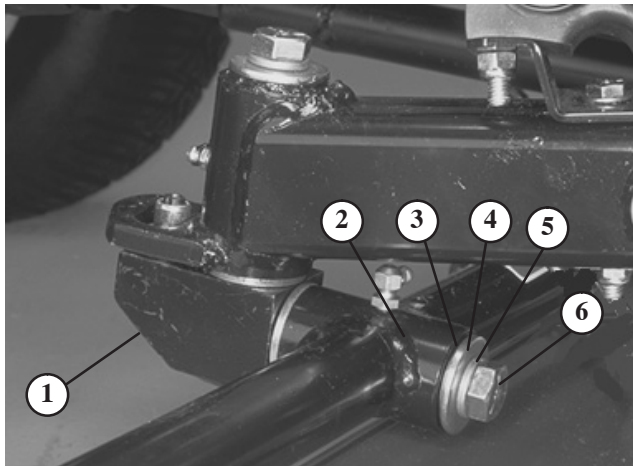

Figure 8
5. Align the mounting shaft of the cutting unit with the pivot tube on the carrier frame. Insert the shaft into the tube (Fig. 8).
6. Secure shaft in pivot tube with a thrust washer, flat washer, lock washer, and capscrew (Fig. 8).